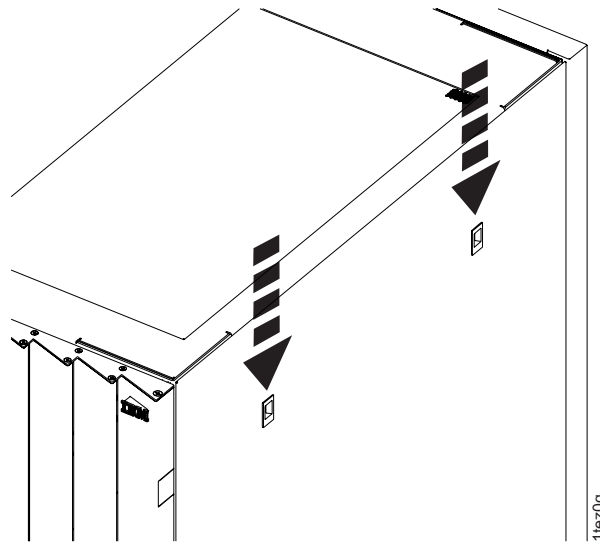

Figure 8. Disengaging the end cover
- Older version has two cover retaining brackets as shown in Figure 8. Go to the next step.
- Newer version does not have the two cover retaining brackets as shown in Figure 8. Go to step 3 on page 16.
- a. Release the two cover retaining brackets (pull them downward). See Figure 8. The cover is still secured to the frame by multiple “hook and loop” fasteners along each side of the cover.